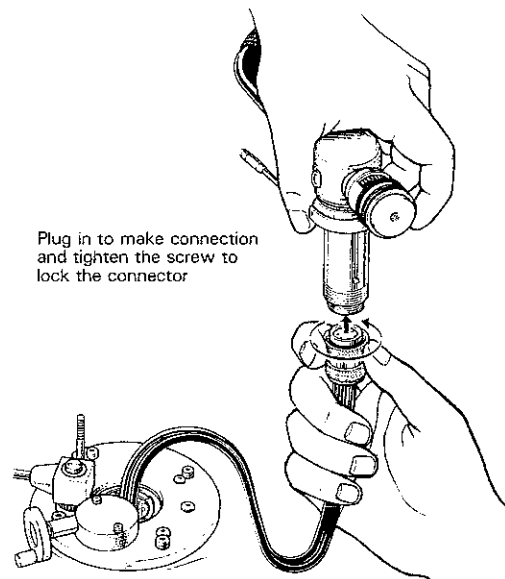

Fig. 6
1. Pass the attached audio cable through the arm base hole and connect the cable to the tonearm. As the audio cable connector is of the screw lock type, tighten the screw to lock the connector. (Fig. 6)